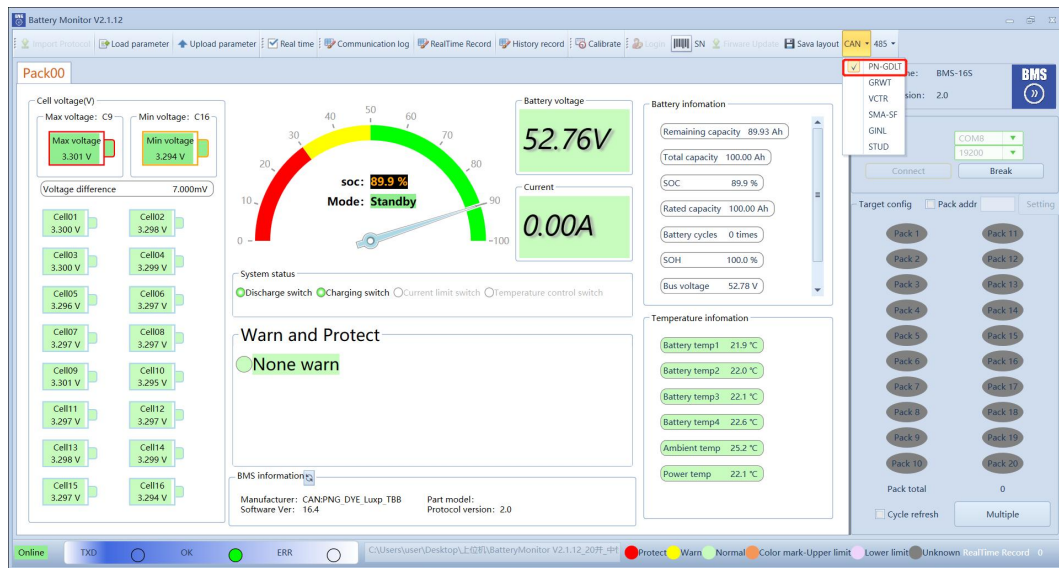

Figure 7-1
- 1) Click the "CAN" drop-down box and select the corresponding CAN connect protocol according to the inverter type, Figure 7-1